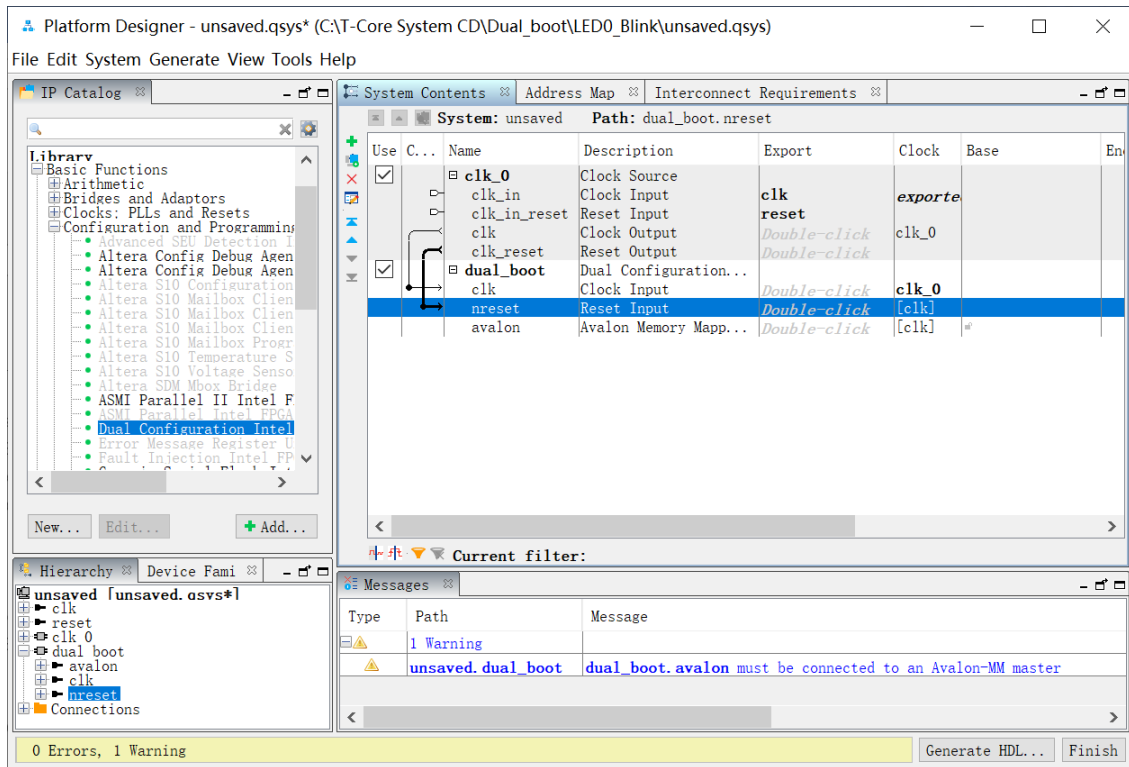

Figure 4-7 Rename and connect dual boot IP OK
- Click **Finish** to close the wizard and return to the Platform Designer window. Choose **dual_boot_0** and click right key to select **Rename** it to **dual_boot**, and connect the **clk** and **nreset** to **clk_0.clk** and **clk_0.clk_reset** as shown in **Figure 4-7**.